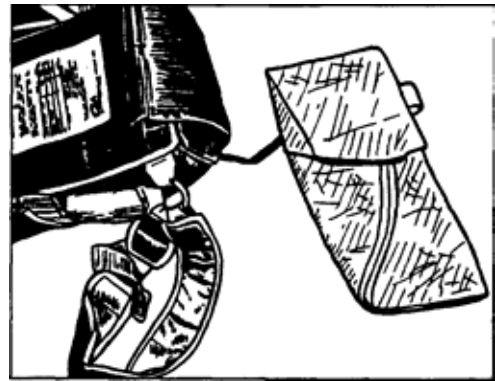
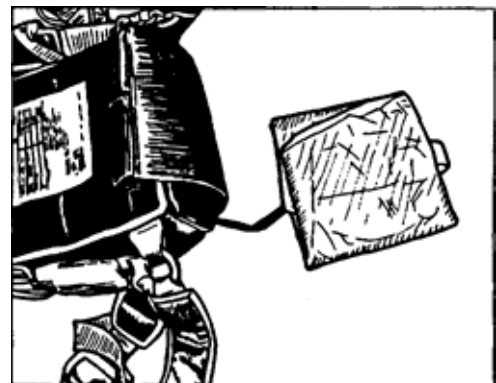

Figure 4
Figure 5
Step 4 Now fold the pilotchute into thirds as shown in *Figure 4* & *Figure 5*.